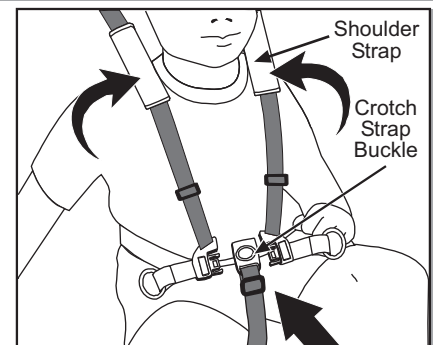

Fig. 17 Secure Shoulder Straps and Buckle.
- Place child in seat. Slip one shoulder strap over each shoulder. Position crotch strap between legs (Fig. 17).